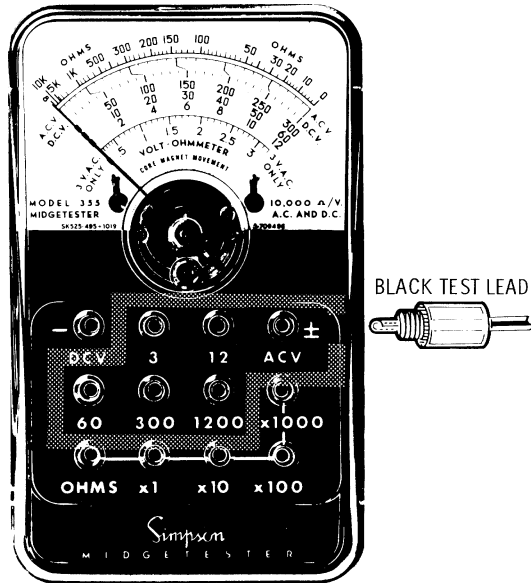

Figure 3-2. Contact Points For AC Voltage Selections
- c. Screw the red test lead into the 3V, 12V, 60V, 300V or 1200V jack as selected for the range required (see Figure 3-2). When in doubt as to the voltage present, always use a higher range as a cautionary measure to protect the instrument.